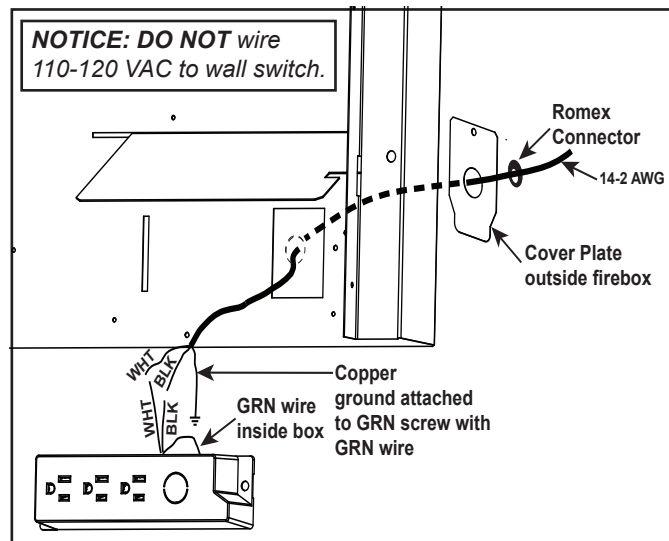

Figure 6.1 Junction Box Detail
- Remove the screw attaching the junction box/receptacle to the outer shell, rotate the junction box inward to disengage it from the outer shell. See Figure 6.1.
- Pull the electrical wires from outside the appliance through the opening into the valve compartment and secure wires with a Romex connector. See Figure 6.1.
- Remove the screw attaching the cover plate from the outside of the outershell. See figure 6.1
- Pull the electrical wires through the opening in the cover plate and secure wires with a Romex connector. See Figure 6.1.